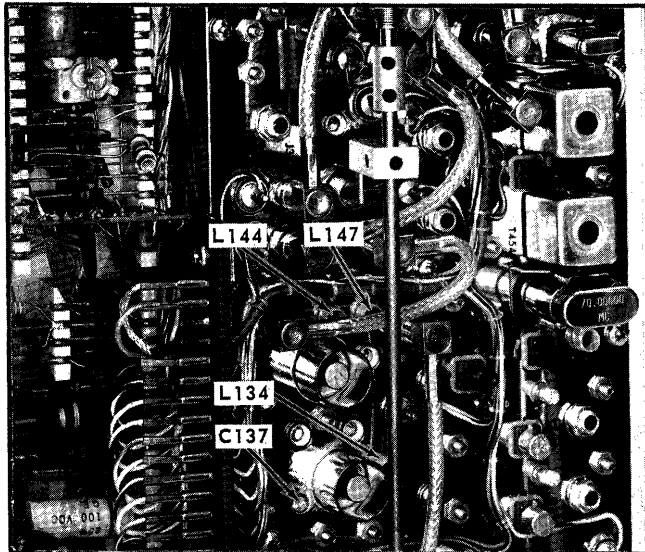

Fig. 6-18. Location of Wide-Band Amplifier Adjustments (Step 10).
g. Adjust L134 and C137 (see Fig. 6-18) for the best flatness between 150 MHz and 250 MHz.
j. Adjust L144 (see Fig. 6-18) for maximum display amplitude.
m. Adjust L147 (see Fig. 6-18) for minimum display amplitude.